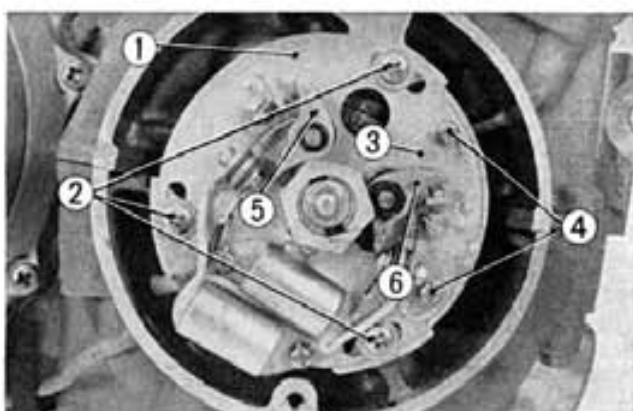

Fig. 7-20 ① Contact breaker base plate
- c. Loosen the three base plate setting screws ② (Fig. 7-20) and carefully rotate the base plate until the continuity light flickers. Tighten base plate setting screws. Rotating the base